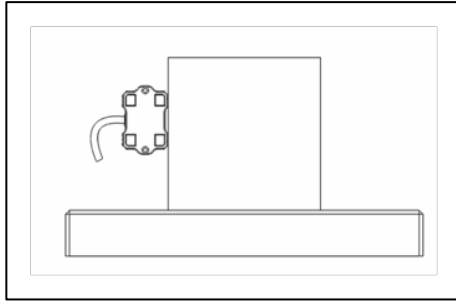

Figure 46. Tilt Sensor Module Position of Calibration Step 4
6. Locate the sensor module as following Figure 46. The sensor is ready for user to perform calibration step 2